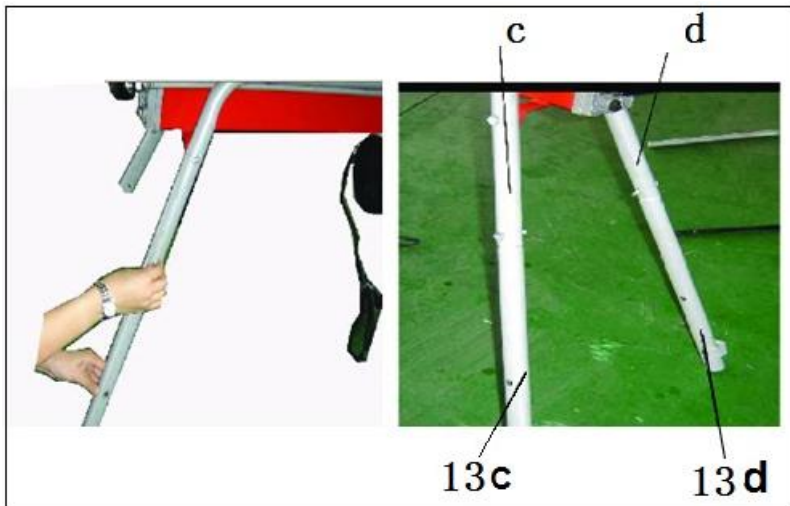

fig.4
c) Connect back stand (13c) to connection pipe (c) and connect back stand (13d) to connection pipe (d) by bolts and nuts (fig.4).